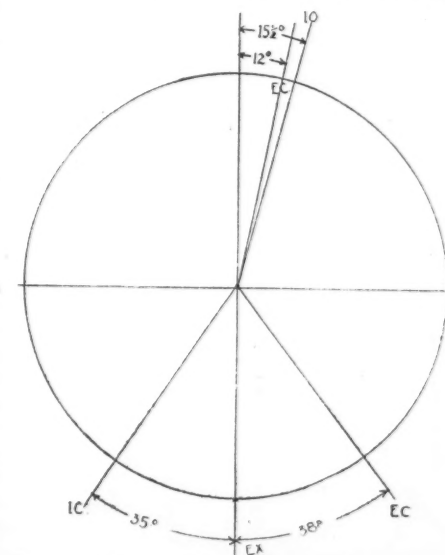

Fig. 4—Valve timing diagram on Empire 31 made in 1915
**1**—For the timing diagram of this engine refer to Fig. 4. The camshaft may be set in any desired position within the limits of one tooth, by having the camshaft drive chain brought to a position where the coupling link is exposed through the cover plate on the camshaft